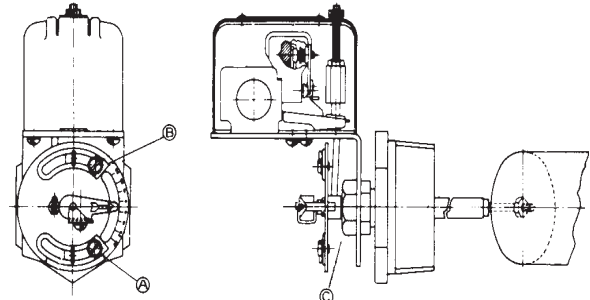

Figure 3a
- Adjustment strip A of Fig. 3a is used to adjust the point at which the float switch or (optional) mechanical alternator starts a pump. Adjustment strip B is used to adjust the point at which the float switch or (optional) mechanical alternator stops the pump.